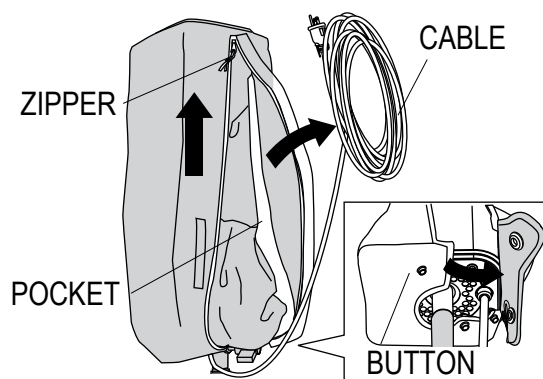

Figure 9. Unzipping Cover
3. Unsnap the three buttons on the bottom of the balloon cover and unzip the cover. See Figure 9.